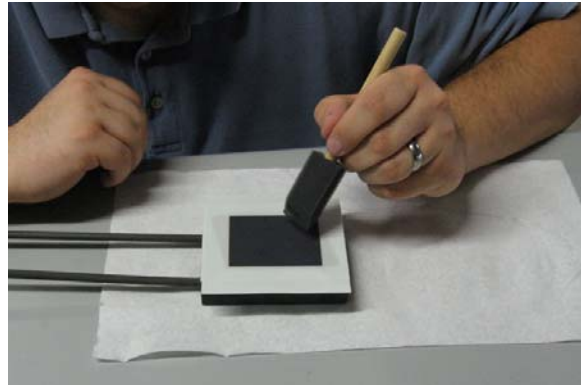

Figure 9
10. Lightly holding the cell in place, paint the cathode active area of the cell with cathode ink (Figure 9)